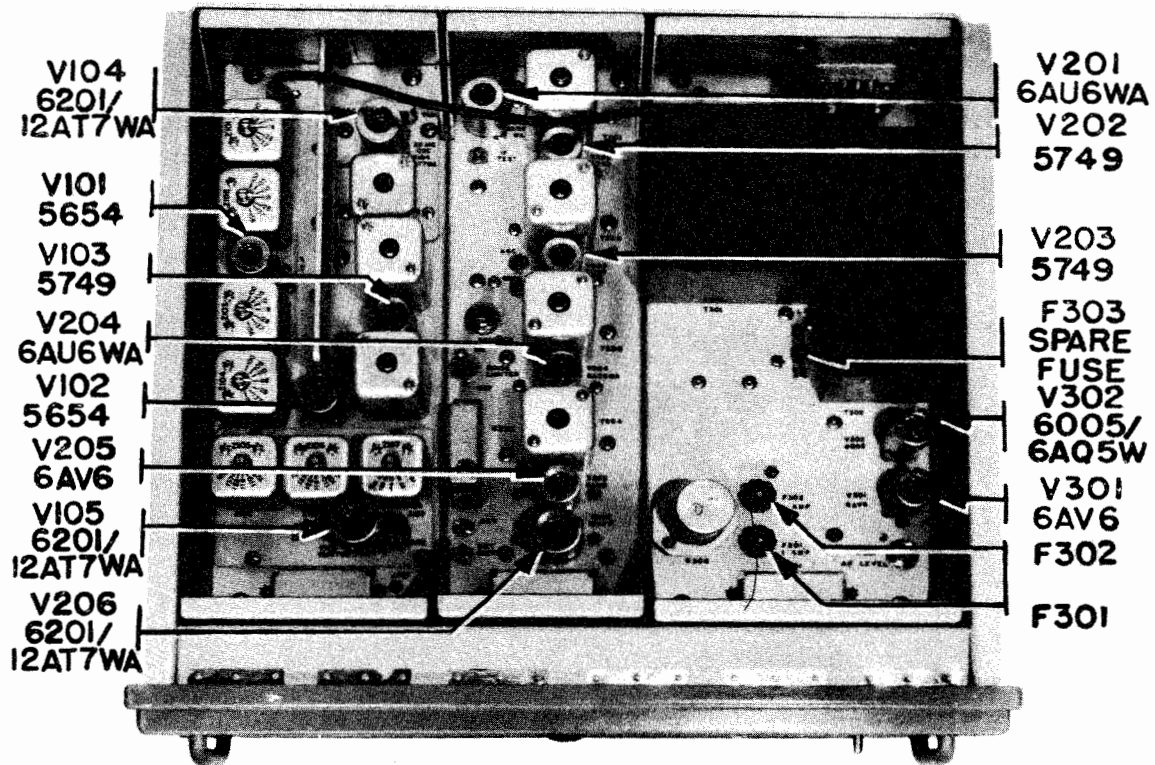

Figure 5-1. Tube and Fuse Types and Locations
b. FUSE INFORMATION.—Two 1-ampere, type 3AG slow-blow glass cartridge fuses, located on the top of the Audio/Power Supply sub-chassis as indicated in figure 5-1, are the only fuses used in Radio Receiver AN/FRR-27. These fuses protect the 105/115/125 volt, 50-60 cycle primary circuit. Access to the fuses is obtained by unscrewing the four fasteners in the corners of the front panel, and pulling the entire unit out of the case until the side latches prevent further movement. The fuses are removed by pushing down on the fuseholder head, then twisting it one-quarter turn in a counterclockwise direction. The fuseholder head, with the fuse attached may now be lifted up. Condition of the fuse may be determined by observing through the glass casing whether the fuse link has been broken or melted. Always replace a bad fuse with one of exactly the same rating and, before replacing, check the set and cables visually to make certain that no obvious fault exists. The description for these fuses is given in table 8-2 under F301.
A spare fuse is mounted in a clip next to the audio output transformer on the Audio/Power Supply sub-chassis, as indicated in figure 5-1. Additional spare fuses should be kept at hand for replacement use. If fuse F301 or/and F302 blow following a replacement, the primary wiring should be examined for obvious shorts. If no shorts are apparent, further servicing must be entrusted to qualified maintenance personnel.
c. ELECTRON TUBE INFORMATION.—The full complement of electron tubes used in the AN/FRR-27 is given in table 1-4. These tubes are all located on the three sub-chassis assembly units, as indicated in figure 5-1.
a. TUBE DATA.—The full complement of electron tubes used in Radio Receiver R-518/FRR-27 is given in table 1-4. These tubes are all located on either the RF, IF, or Audio/Power Supply chassis assemblies of the receiver. Their locations on these individual chassis are shown in figure 5-1.